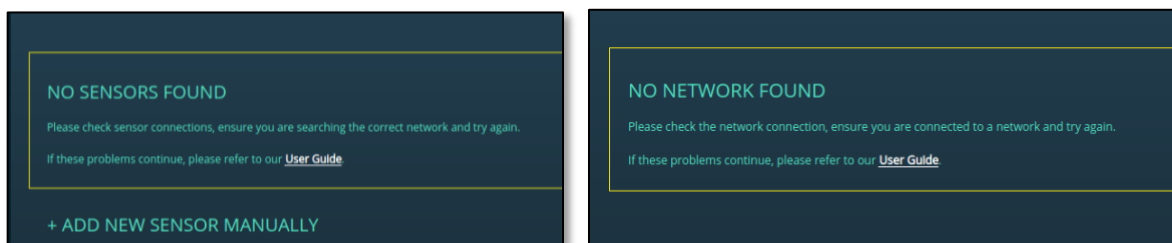

Figure 22. Dashboard Tab: No Network Found (right), No Sensors Found (left)
3. If you don't get the results you want. See Figure 22. Dashboard Tab: No Network Found \(right\), No Sensors Found \(left\).